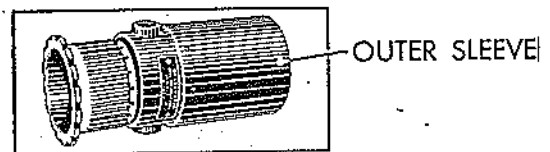

Figure 74
(2) Slide the outer sleeve over the inner sleeve and bumper assembly as shown in Fig. 74.